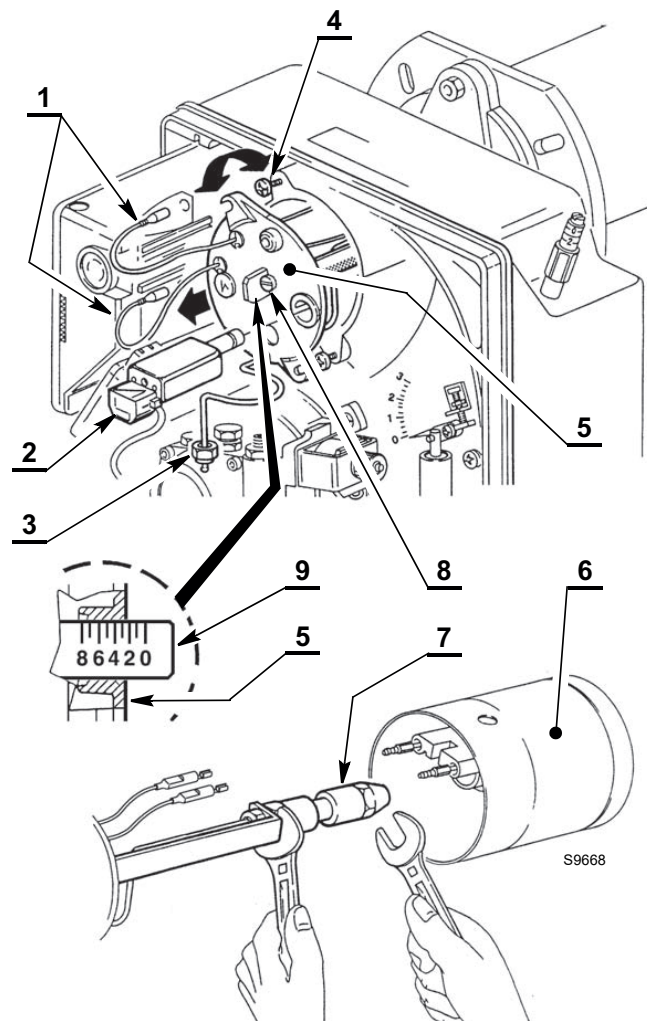

Fig. 16
To access the nozzle carry out the following operations (Fig. 16):
- remove the wires 1) from the control box, the flame sensor 2)(Fig. 16) and loosen the nut 3) from the pump.
- Change the nozzle 7)(Fig. 16), holding the nozzle-holder with the help of a spanner.